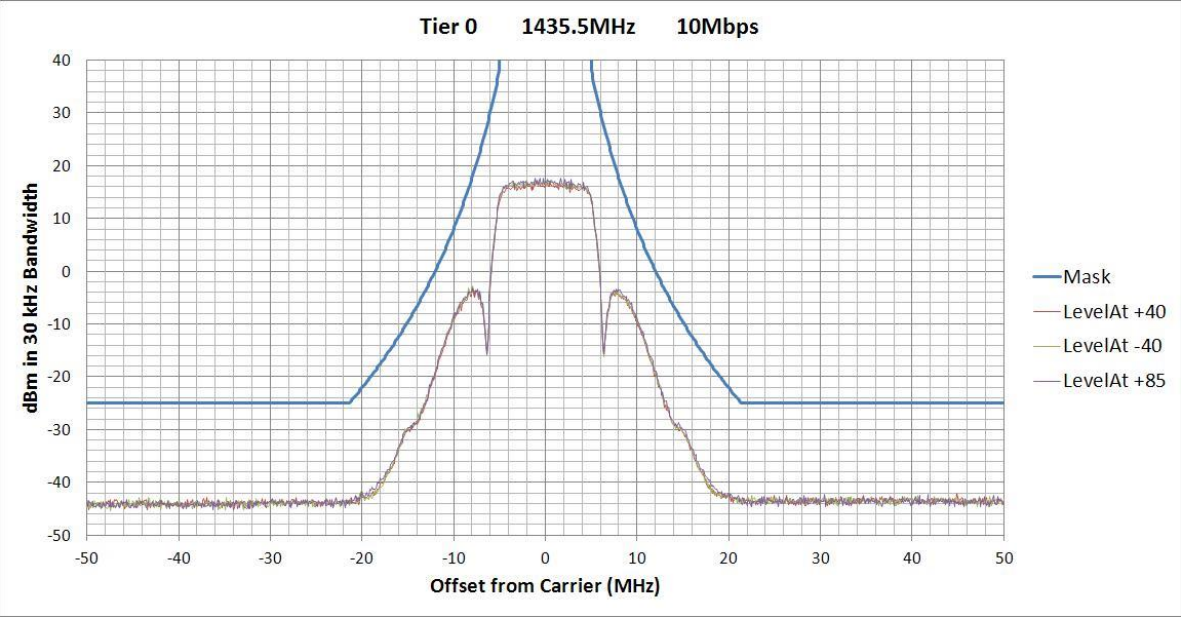
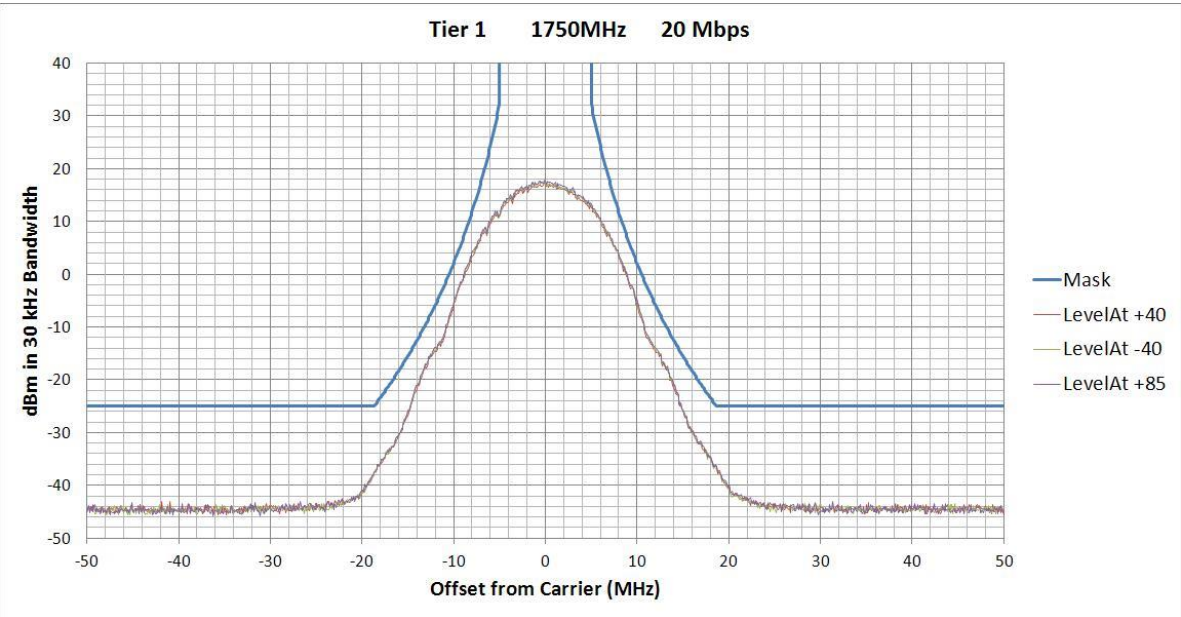
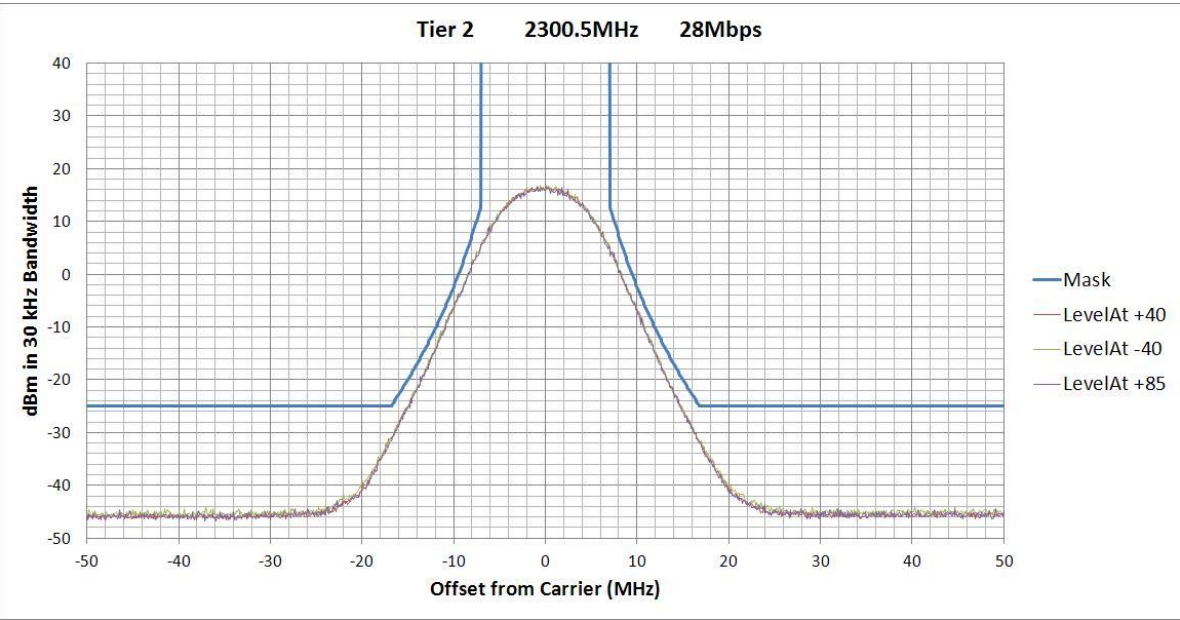

Figure 11: PCM/FM (Tier 0) PSD and Mask
Figure 12: SOQPSK-TG (Tier I) PSD and Mask
Figure 13: Multi-h CPM (Tier II) PSD and Mask
As noted in the equation above, the mask has a floor at $-(55 + 10 \log (P))$ dBc, and the mask imposes no limit on the spectrum for frequency offsets less than R/m. Representative examples of the transmitted spectrum, with the appropriate mask, are shown in Figure 11, Figure 12, and Figure 13.